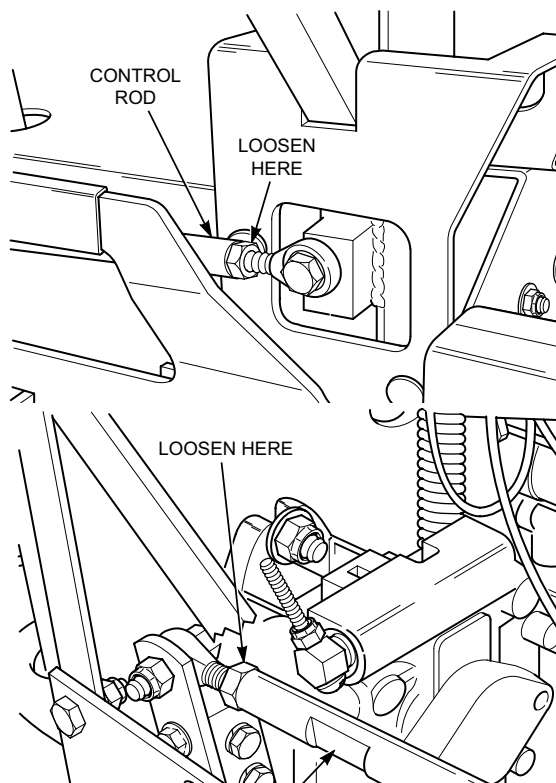

Figure 6-3. RH Steering Control Rod Adjustment
4. Adjust the RH wheel by loosening the jam nuts on the steering control rod and turning the rod until the drive wheel turns in the forward direction. Turn the rod back until the drive wheel stops moving. Turn the rod an additional 1/2 turn. See Figure 6-3.
A. Stop the machine and place the steering control levers in the neutral position. Loosen the lock nuts securing the ball joints at each end of the RH steering control rod. Rotate the control rod to lengthen the rod and tighten the lock nuts. This will cause the control rod to stroke the RH pump less, slowing down the RH wheel. See Figure 6-3.